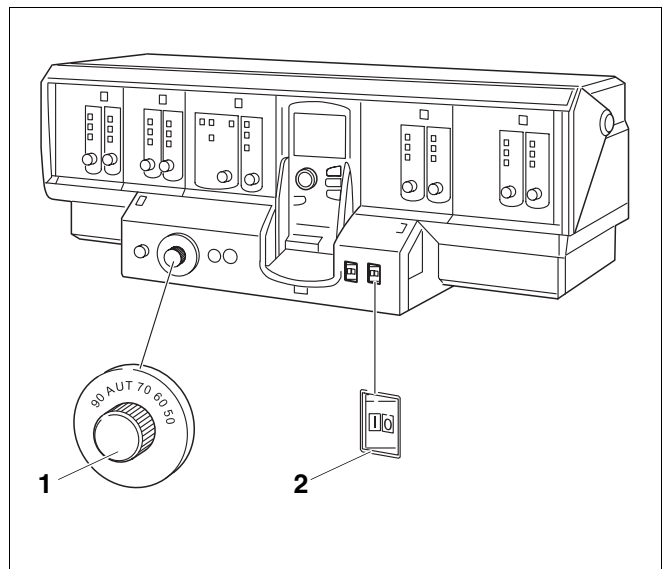

Fig. 3 Control unit (for example: Logamatic 4000)
Start up your boiler via the control unit (in this example, Fig. 3: series 4000 control unit). By commissioning the control unit, you also automatically commission the burner. The burner can then be started via the control unit. For further details in this connection, see the operating instructions of the relevant control unit or burner.
- Switch the boiler water thermostat (Fig. 3, **item 1**) to "AUT" (Automatic).
- Set the On/Off switch (Fig. 3, **item 2**) to "I" (ON).
- Set the On/Off switch (Fig. 3, **item 1**) to "0" (OFF).